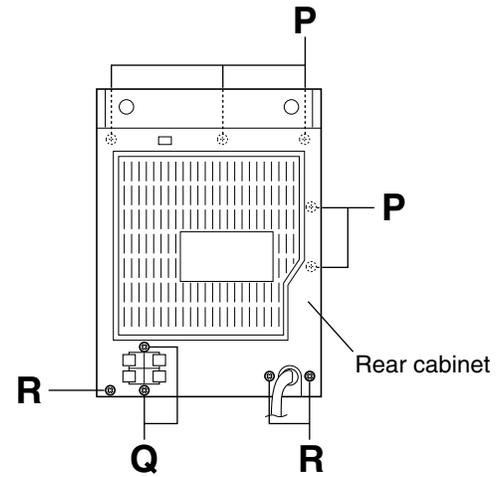

Fig.18
- Remove the main board according to its disassembly method. (See Figs. 18 and 19.)
(See Figs. 18 and 19.)
1. From the inside of the rear cabinet, remove the five screws **P** retaining the bracket. (See Fig.18.)
2. From the rear side of the main body, remove the two screws **Q** retaining the speaker terminal of the main board. (See Fig.18.)
3. Remove the three screws **R** retaining the rear cabinet, then remove the rear cabinet. (See Fig.18.)